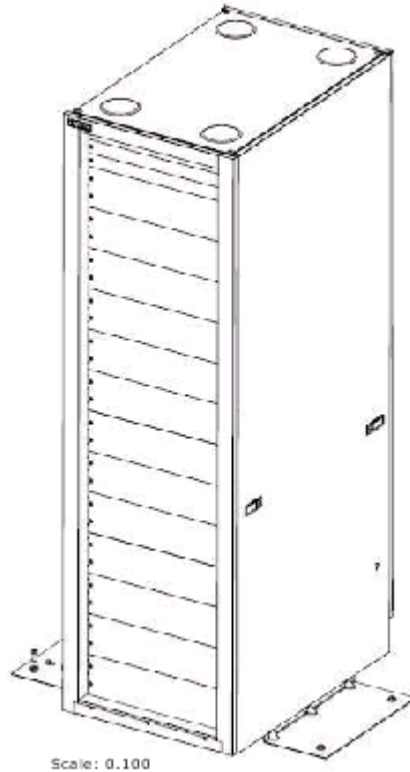

Figure C-12 Hitachi Univesal Rack with Side Stabilizer Plates Installed
- Install the front anti-tip stabilizing plate to provide greater stability and safety. See Stabilizing the rack on page C-24 and Installing side stabilizer plates on page C-26. Figure C-12 Hitachi Univesal Rack with Side Stabilizer Plates Installed on page C-28 shows an how to install the stabilizer plates.
3. Using the hardware supplied, attach both plates as shown in Figure C-12 Hitachi Univesal Rack with Side Stabilizer Plates Installed on page C-28 using the included hex tool.